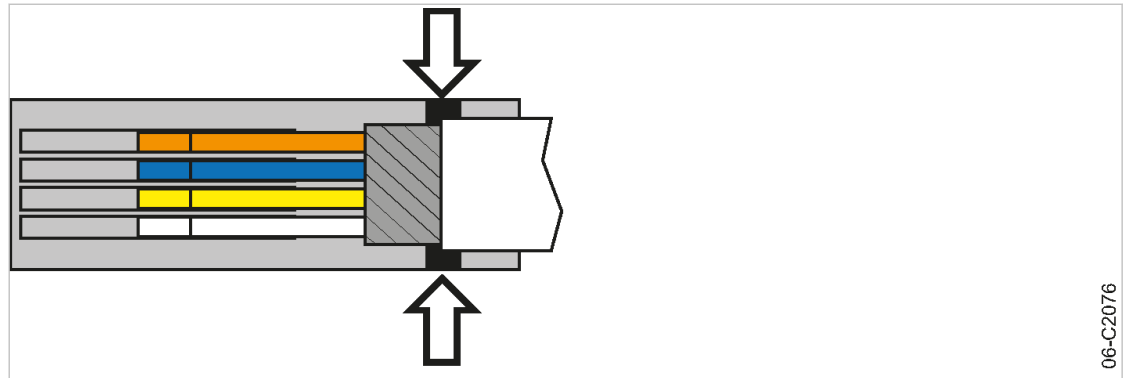

Fig. 20 Positioning the network cable
4. Position the network cable as shown (arrows, see Fig. 20).